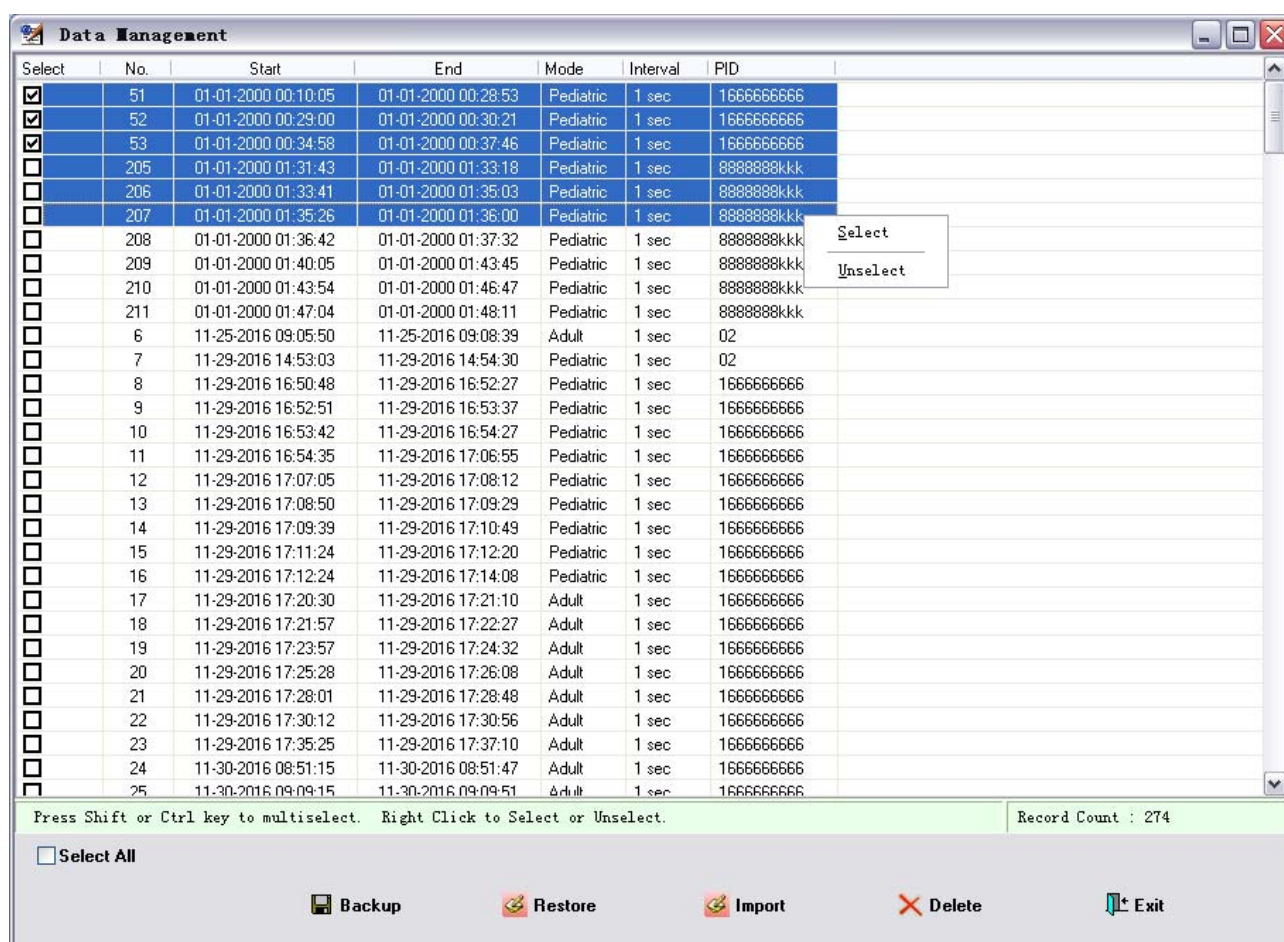

Figure 3-13A Data management
- ✧ Click **data management** icon "🔧" to backup, restore, import or delete the trend data (all or part of the trend list) for the current patient account, as shown in figure 3-13A.